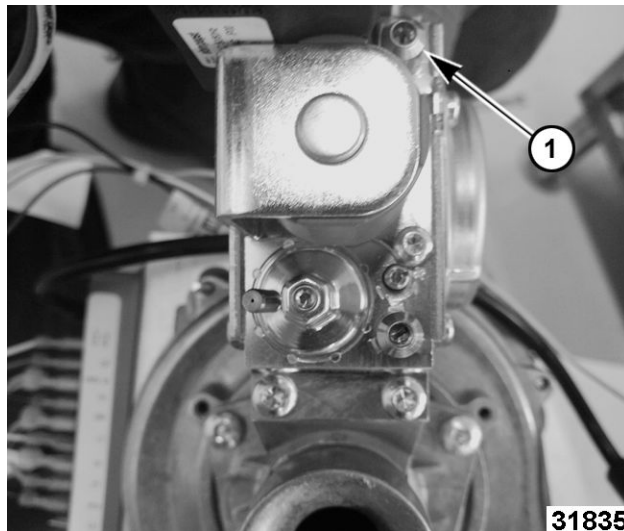

Fig. 1
- A. Loosen screw (1, Fig. 1) with flat head screwdriver to open pressure tap.